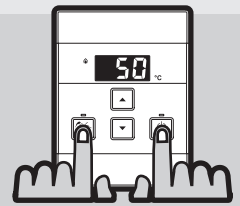

Fig. 3
**STEP 1:** On the 'Master' controller only, press and hold the 'Priority' and "On/Off" buttons simultaneously (Fig. 3) until a 'beep' is heard (approximately 5 seconds).